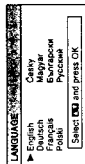

Fig. 1.
- 2 The LANGUAGE menu appears. (See Fig. 1.)